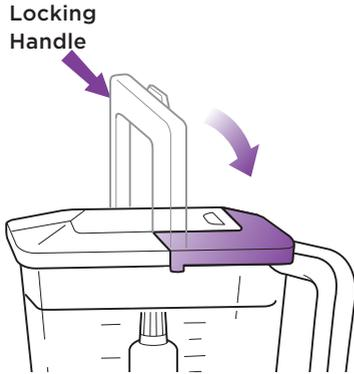

Fig. 5
- Place the color co-ordinated lid onto the corresponding container with the locking handle in the upright position and the pouring spout on the corner opposite the container's handle. Align the arrows (▼) located on the lid and container's handle. Ensure that the lid is completely seated and press the lid down into the container. Press the locking handle down so that the latches on the lid fit under the tabs on the container. (Fig. 5)